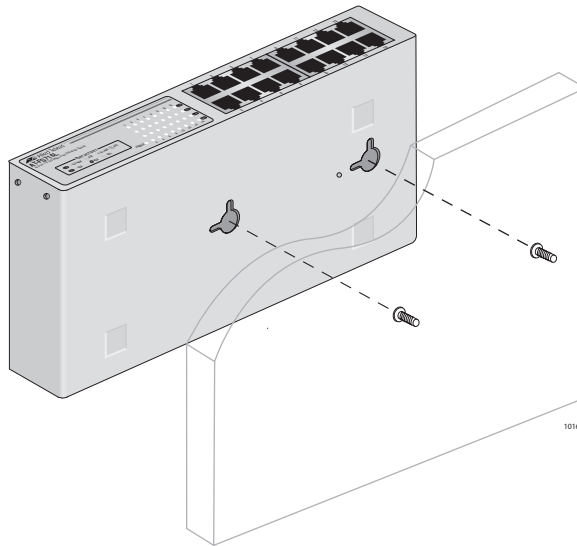

Figure 9. Wallmounting an AT-FS716L Switch
7. Position and hang the switch onto the wall using the two keyhole slots located in the bottom of the switch, as illustrated in Figure 9.